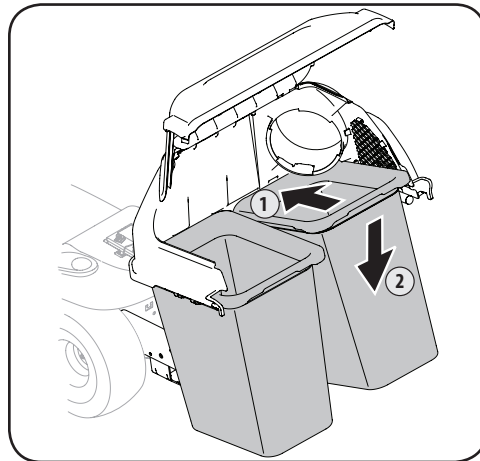

Figure 4-18
- Install both grass bag assemblies, with the tight mesh sides facing forward, onto the bag support brackets by inserting the front edge in first, as shown in Figure 4-18, and setting the back edge down until it fits into the assembly.